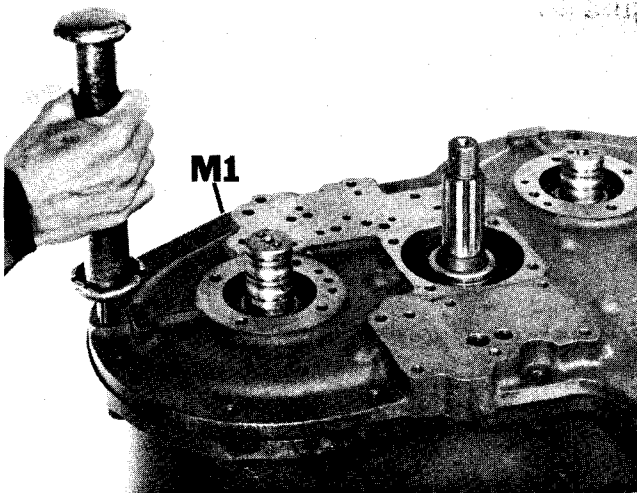

Figure 53
14. Dowel main cover (M-1) in two places using two dowel pins (Figure 53).